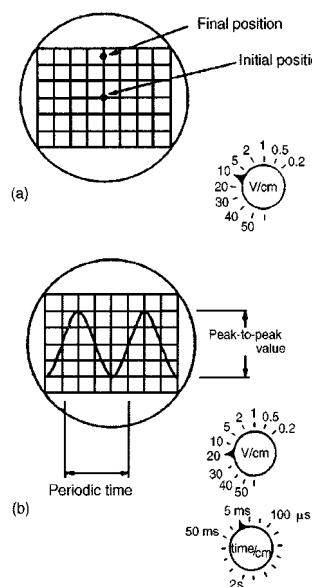

Figure 10.14
- (i) With **direct voltage measurements**, only the Y amplifier 'volts/cm' switch on the c.r.o. is used. With no voltage applied to the Y plates the position of the spot trace on the screen is noted. When a direct voltage is applied to the Y plates the new position of the spot trace is an indication of the magnitude of the voltage. For example, in Fig. 10.14(a), with no voltage applied to the Y plates, the spot trace is in the centre of the screen (initial position) and then the spot trace moves 2.5 cm to the final position shown, on application of a d.c. voltage. With the 'volts/cm' switch on 10 volts/cm the magnitude of the direct voltage is $2.5 \text{ cm} \times 10 \text{ volts/cm}$, i.e. 25 volts.
- (ii) With **alternating voltage measurements**, let a sinusoidal waveform be displayed on a c.r.o. screen as shown in Fig. 10.14(b). If the time/cm switch is on, say, 5 ms/cm then the **periodic time T** of the sinewave is $5 \text{ ms/cm} \times 4 \text{ cm}$, i.e. **20 ms** or **0.02 s**. Since frequency